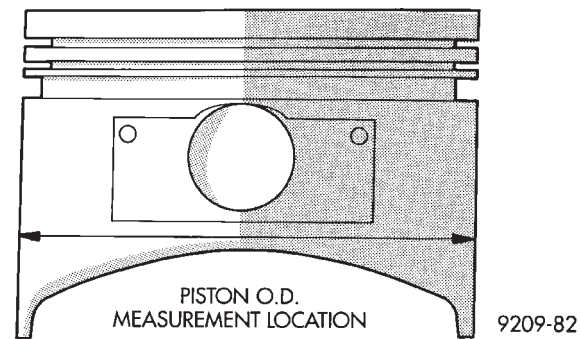

Fig. 18 Measure Piston
(1) Bore to specified clearance between the piston O.D. and cylinder. The measuring point of the piston O.D. is shown in (Fig. 18).
(2) Based on measured piston O.D., calculate boring finish dimension. Boring finish dimension equals piston O.D. plus 0.03 to 0.05 mm (.0012 to .002 inch)